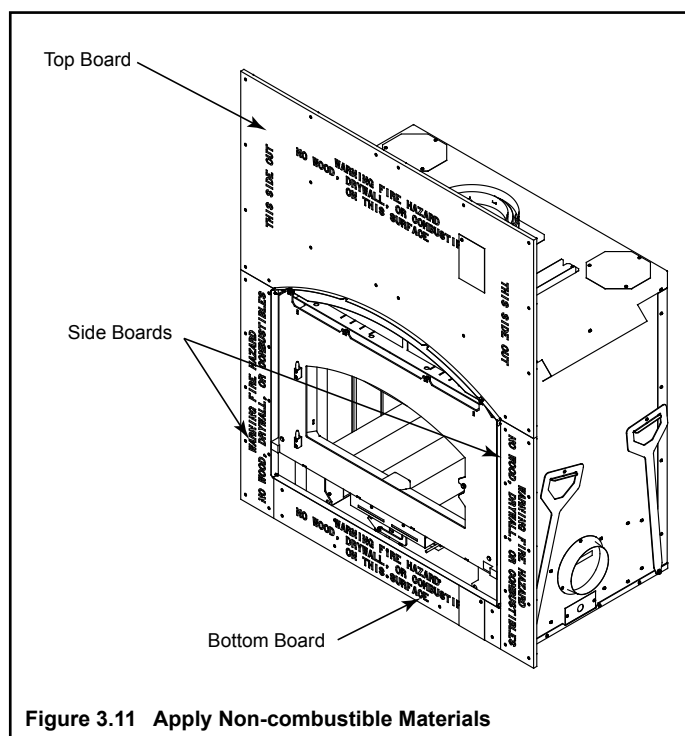

Figure 3.11 Apply Non-combustible Materials
- Attach the bottom board to the bottom of the outer fireplace outer shell with enclosed screws, ensuring the board is centered. **DO NOT remove hang tags.** Attach the side pieces to the outer can and framing members. See Figure 3.11.